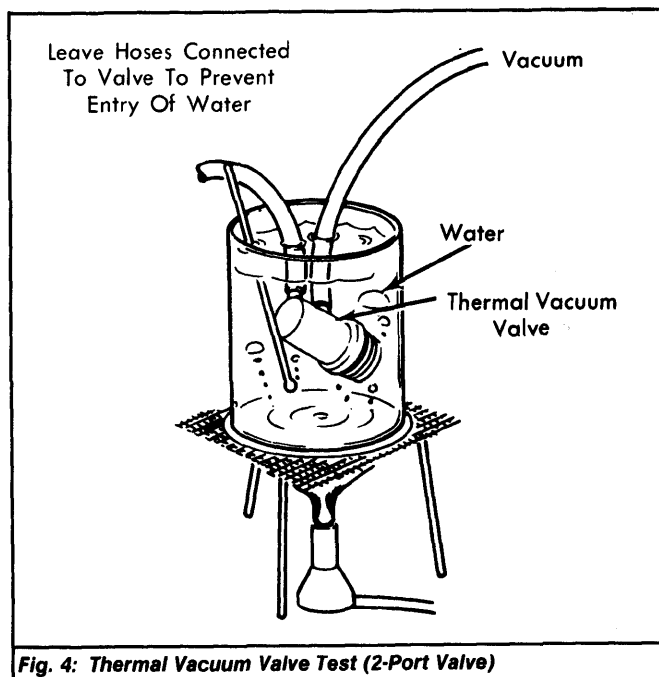

Fig. 4: Thermal Vacuum Valve Test (2-Port Valve)
**1979 Models** - Drain engine coolant and remove thermal vacuum valve from engine. Submerge valve in a container of water. *See Fig. 4.* Apply vacuum to top port of valve and check that valve opens and closes according to water temperature specified in THERMAL VACUUM VALVE TEST SPECIFICATIONS table. If not, replace thermal vacuum valve.